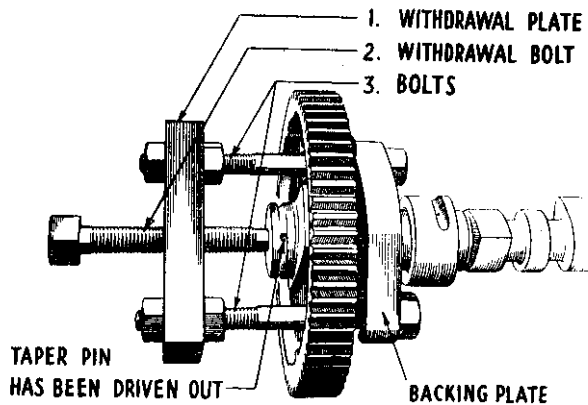

Fig. 4
- viii. Assemble tool as shown in Fig. 4, i.e., put bolts (3) through the governor weight holes, then drop backing plate (4) into position, adjust length of bolts so as to place draw bar (1) as close to the end of the shaft as possible, then draw the wheel off by turning withdrawal bolt (2).